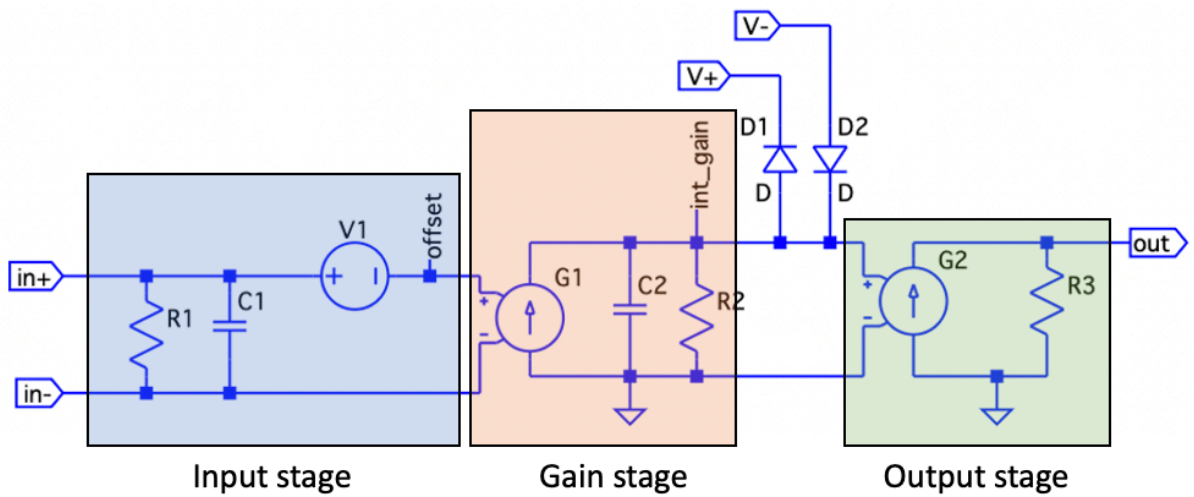

Figure 2.3
- (d) *Figure 2.3* shows a simplified SPICE model for the MCP6291 operational amplifier. The model has three parts: the input stage, the gain stage and the output stage. $V+$ and $V-$ are the positive and negative power supplies to the operation amplifier respective. Based on the datasheet provided in the Appendix, answer the following questions: